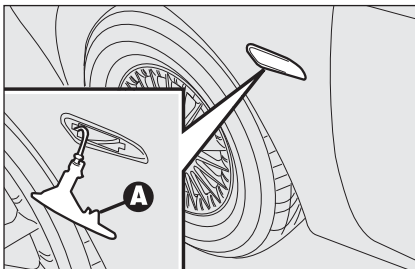

fig. 30
- push the lens by hand in opposite running direction in order to press the catch **A-fig. 30**. Release the front part and remove the unit;
- fit the bulb holder **B** into the lens **C** then position the unit, the catch shall click into place **A-fig. 30**.